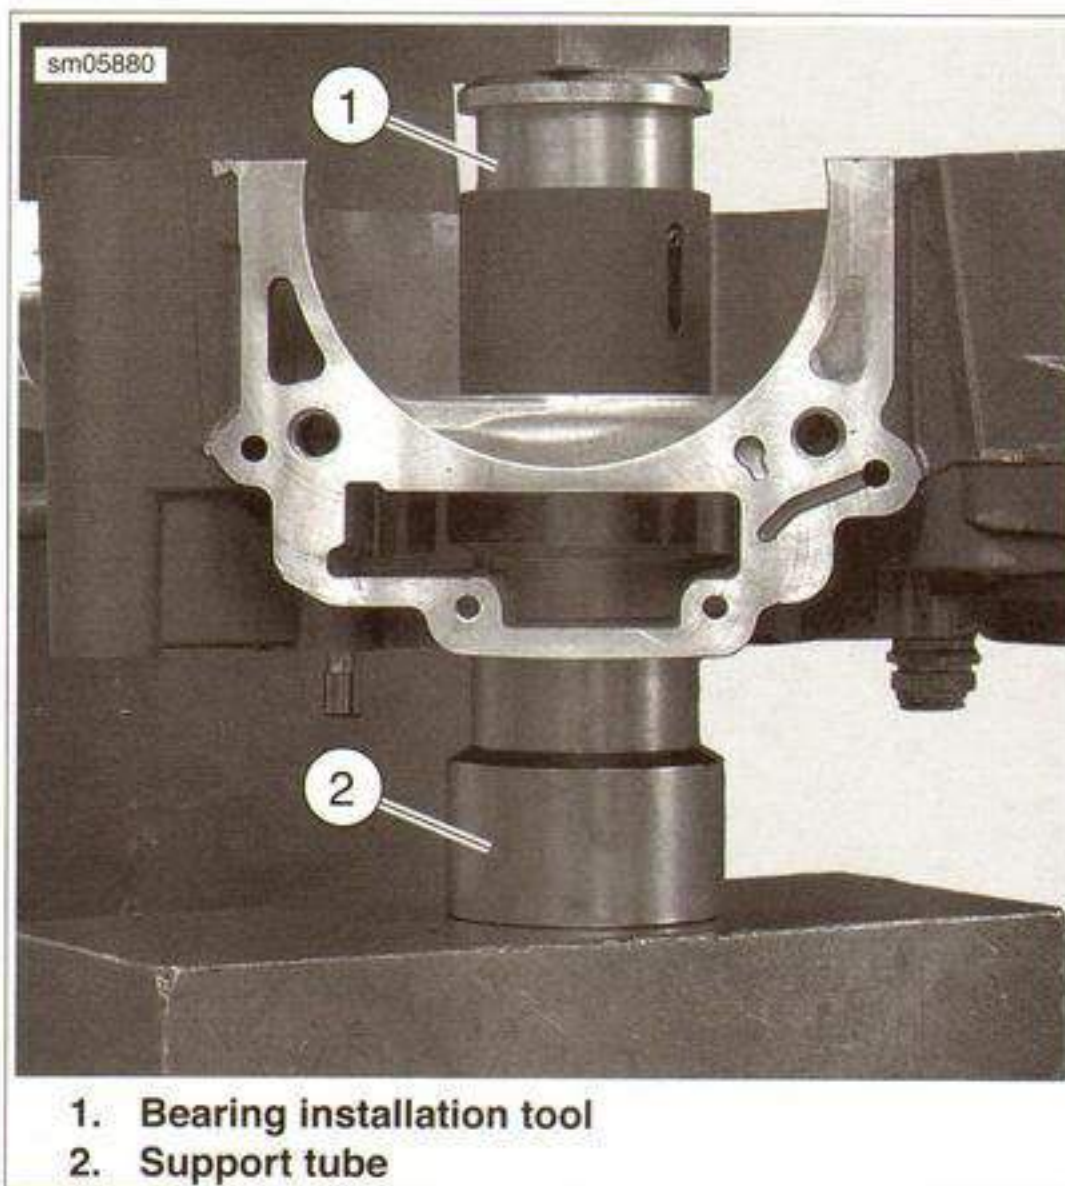
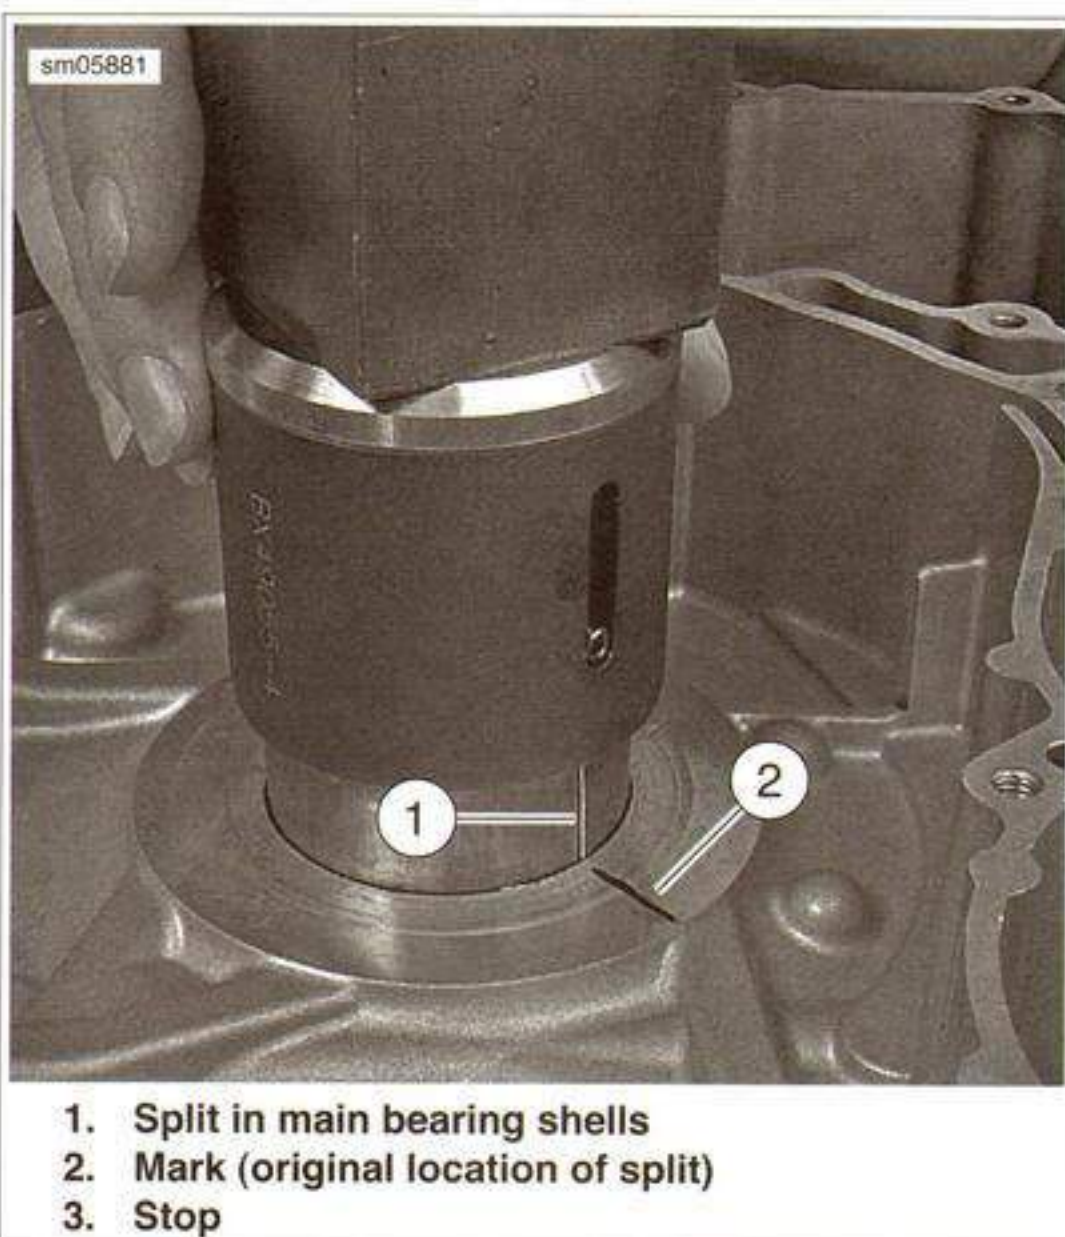

Figure 3-185. Installing Main Bearings
Figure 3-186. Main Bearings
- b. Place bearings (1) in tool with split (2) in bearings lined up with stop (4) in collar (3).
3. See Figure 3-185. Turn support tube (2) over so that the "B" end is up. The sides of the support tube are stamped "A" and "B" to be certain of proper orientation.
5. While holding bearings in installation tool, slide bearing installation tool (1) through bearing into support tube.
6. See Figure 3-186. Using the stop (3) as a guide, align the split (1) in the main bearings with the original marked (2) location.
7. See Figure 3-185. Center pilot/driver under ram of press. Apply pressure to installation tool (1) until resistance is felt and bearing is bottomed on the support tube (2).